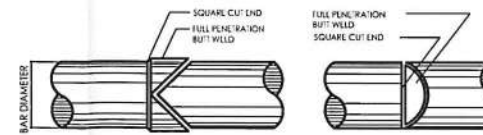

FIG. 7. TYPICAL WELD SPLICE DETAIL
- NO SPLICE SHALL BE PERMITTED ON BEAMS WHERE CRITICAL BENDING OCCURS. LENGTH OF LAP SPLICE WHERE PERMITTED SHALL BE AS SHOWN IN TABLE 2. WELD SPLICE SHALL BE DEVELOP IN TENSION AT LEAST 125% OF THE SPECIFIED YIELD STRENGTH OF BAR. NOT MORE THAN 50% OF THE BARS AT ANY ONE SECTION SHALL BE ALLOWED TO SPLICE THEREIN. A TYPICAL WELDED SPLICE DETAIL IS SHOWN IN FIGURE 7.